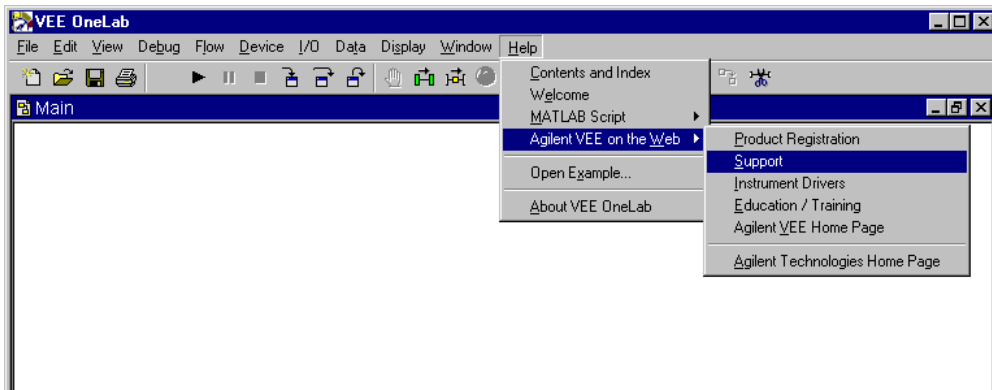

Figure I-4. Contacting Product Support in VEE Help Menu
- *For Current Support Information:* While connected to the network, in VEE, click Help ⇒ Agilent VEE on the Web ⇒ Support. Figure I-4 shows how to select support in VEE. Or, in the Web browser, select <http://www.agilent.com/find/vee> and click “Support”.